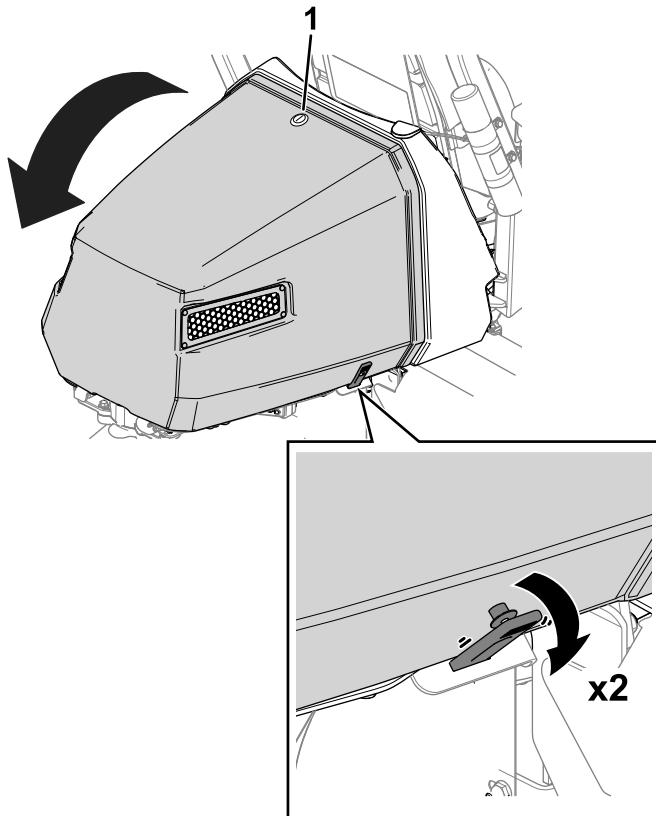

Figure 40
1. Release the hood latch (Figure 40).
2. Release the straps from each side of the hood (Figure 40).